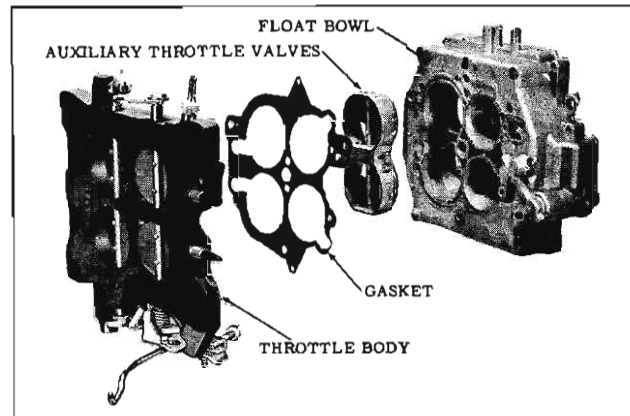

Fig. 4-12 Auxiliary Throttle Valves
the throttle flange and gasket. (Fig. 4-12)
1. With the carburetor body in the inverted position, install the auxiliary throttle valve assembly so that the calibrated spring operating pin is down. (Fig. 4-12)